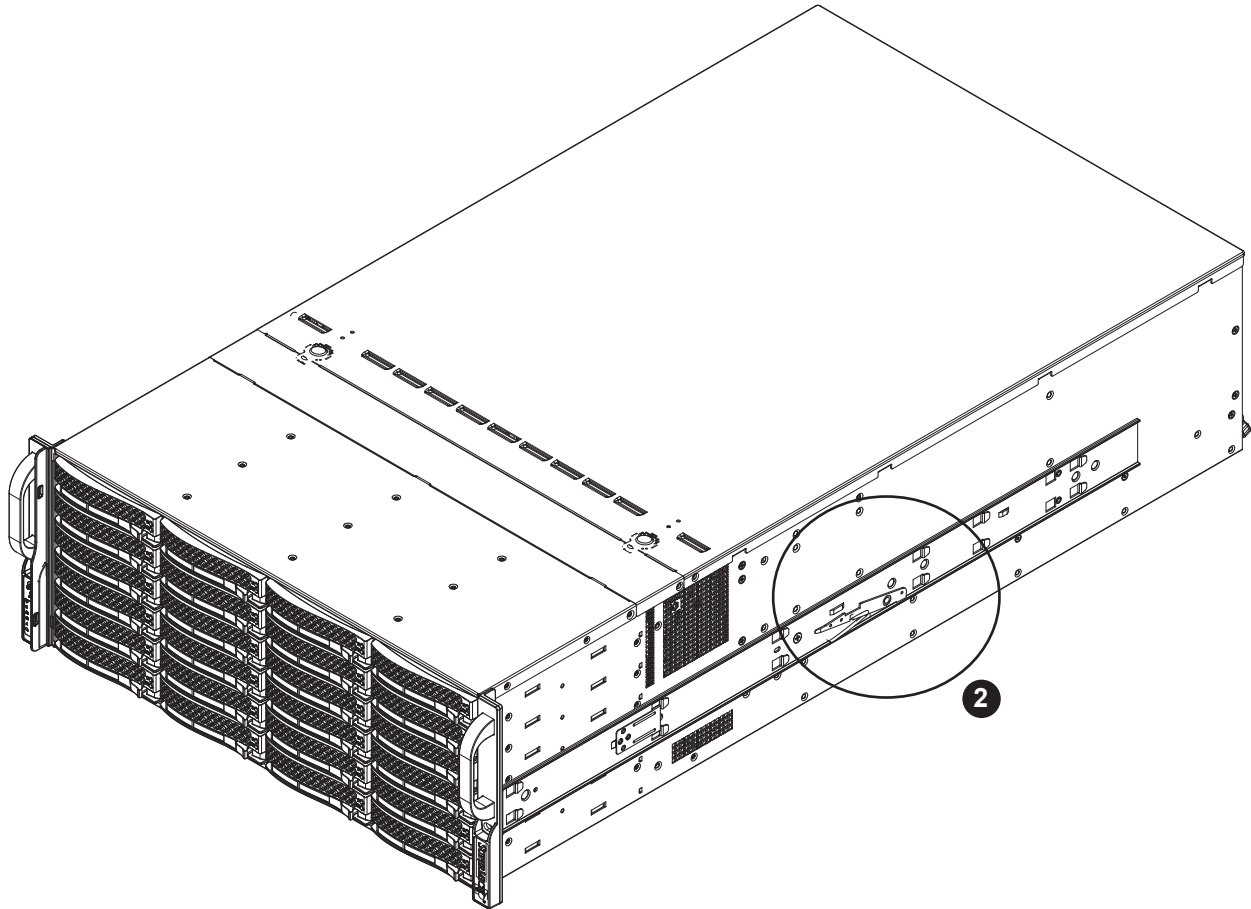

Figure 2-4. Removing the Chassis From the Rack
2. Press the release latches on each of the inner rails downward simultaneously and move the chassis forward in the rack. The release latch is highlighted in Figure 2-4.